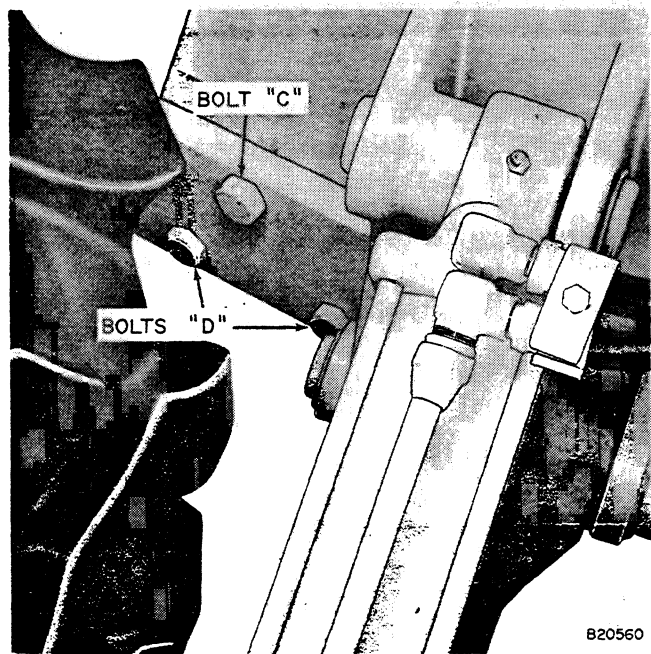

Figure 27 - Bolts to be Removed
4. REFERRING TO FIGURE 27: Remove mounting bolts "C" and "D".